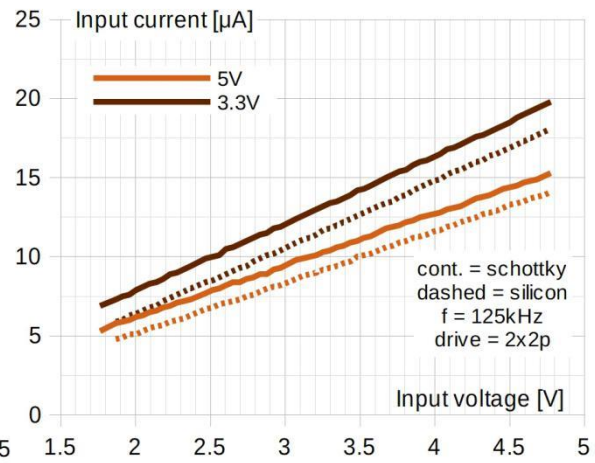

Figure 19: Shutdown Current
- Note 1** I_{shdn}: specified for SLG46533, see relevant datasheet for other Renesas parts; considers leakage and other parasitics outside GreenPAK negligible; for measured shutdown current which includes feedback current, leakages and other parasitic parameters in a real circuit, not just the GreenPAK IC, check Figure 19.